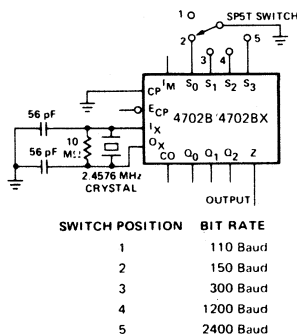

Fig. 1
Single Channel Bit Rate Generator — *Figure 1* shows the simplest application of the 4702B/4702BX. This circuit generates one of five possible bit rates as determined by the setting of a single pole, 5-position switch. The bit rate output (Z) drives one standard TTL load or four low power Schottky loads over the full temperature range. The possible output frequencies correspond to 110, 150, 300, 1200, and 2400 Baud. For many low cost terminals these five bit rates are adequate.